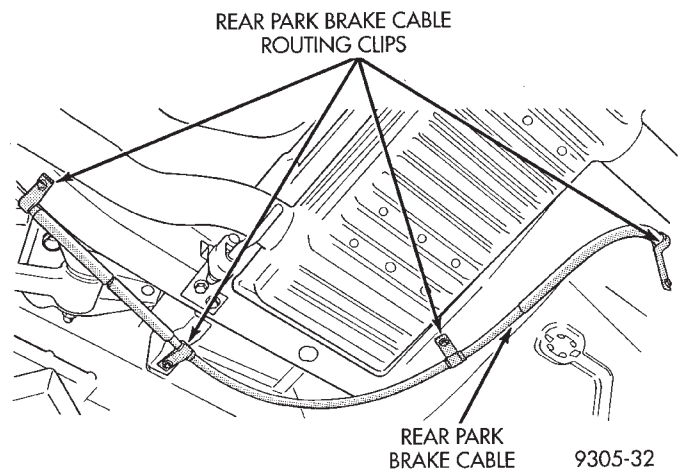

Fig. 3 Park Brake Cable Routing Clip Locations
(3) Remove the 4 routing clips attaching rear park brake cable to floor pan and frame of vehicle (Fig. 3).